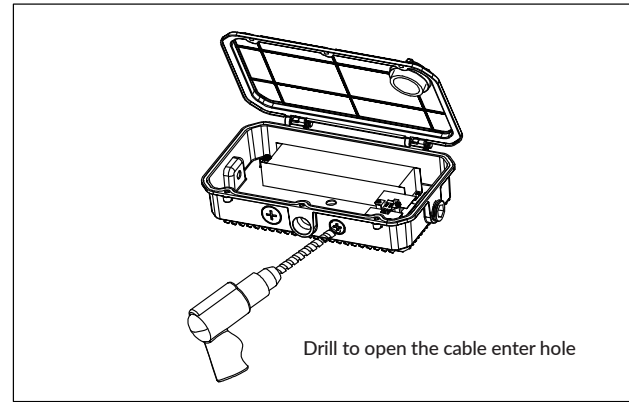

Figure 8
- Drill out the selected hole to create the cable entry port (Figure 8). Ensure the hole's edge is smooth to maintain the waterproof integrity.